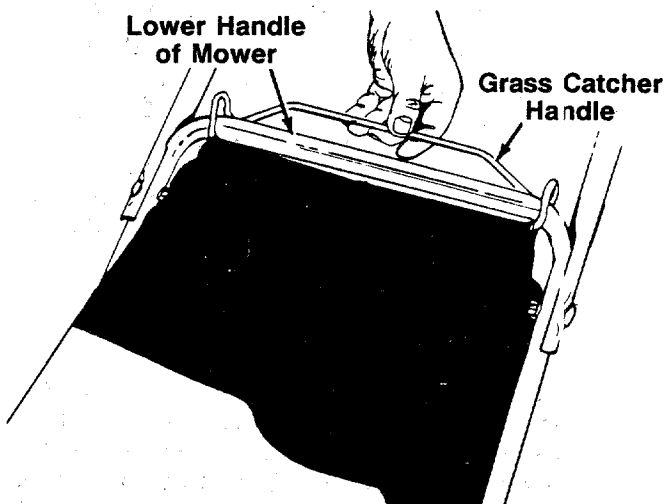

FIGURE 12.
3. Hook the handle on the rear of the grass catcher over the lower handle of the mower. See figure 12.